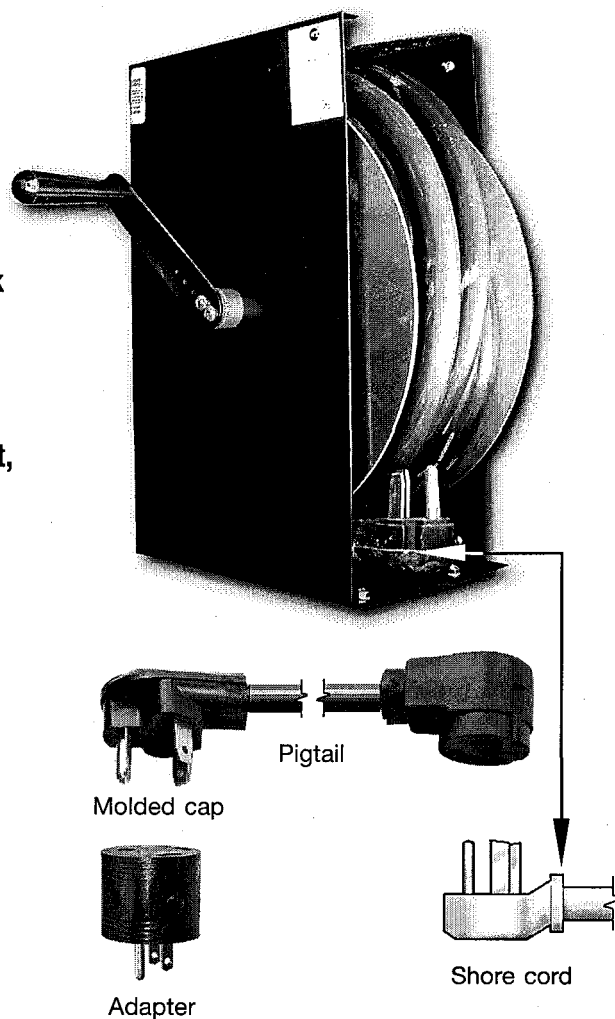

Figure 3.2
- 1 See **Figure 3.2** for a graphic depiction of the pieces described below.
- Clean the shore cord (if needed) before retracting it to prevent dirt from getting in the moving parts (Figure 3.2, page 3.2).